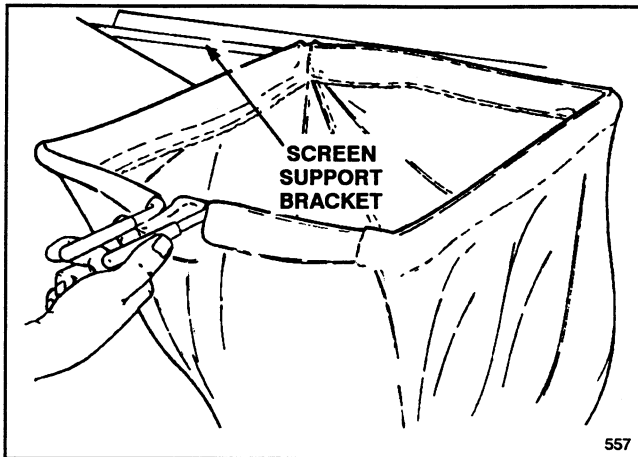

Figure 6
1. Slide grass bag under bag frame cover, positioning front edge of bag rod into screen support bracket on bag frame (Fig. 6).